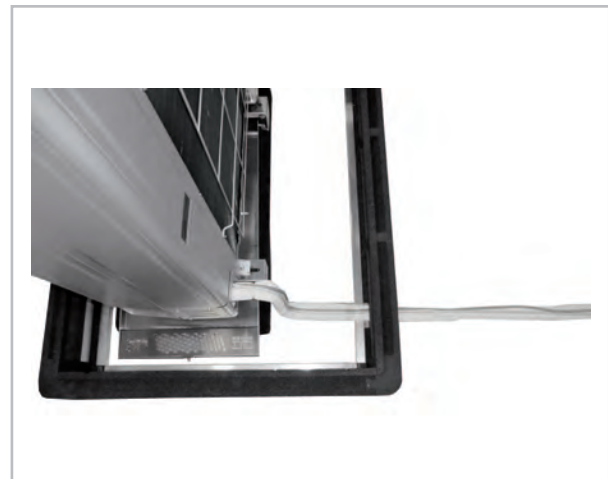

Fig. 17
7. ➤ Once you have installed the bottom aluminium frame, place the first ring element (☞ 'Components on the noise protection hood' on page 24, item 1) over the outdoor unit (Fig. 16 and Fig. 17) and draw the position of the refrigerant piping on the ring element accordingly so that you can remove the opening from the ring element. Lift the ring element off the outdoor unit again and remove the area that you previously drew. To remove the opening for the piping, use suitable tools such as a cutting knife, a jigsaw or a long saw blade.
8. ➤ After you have created the opening, place the ring element back over the outdoor unit and secure it around the aluminium frame (Fig. 17).